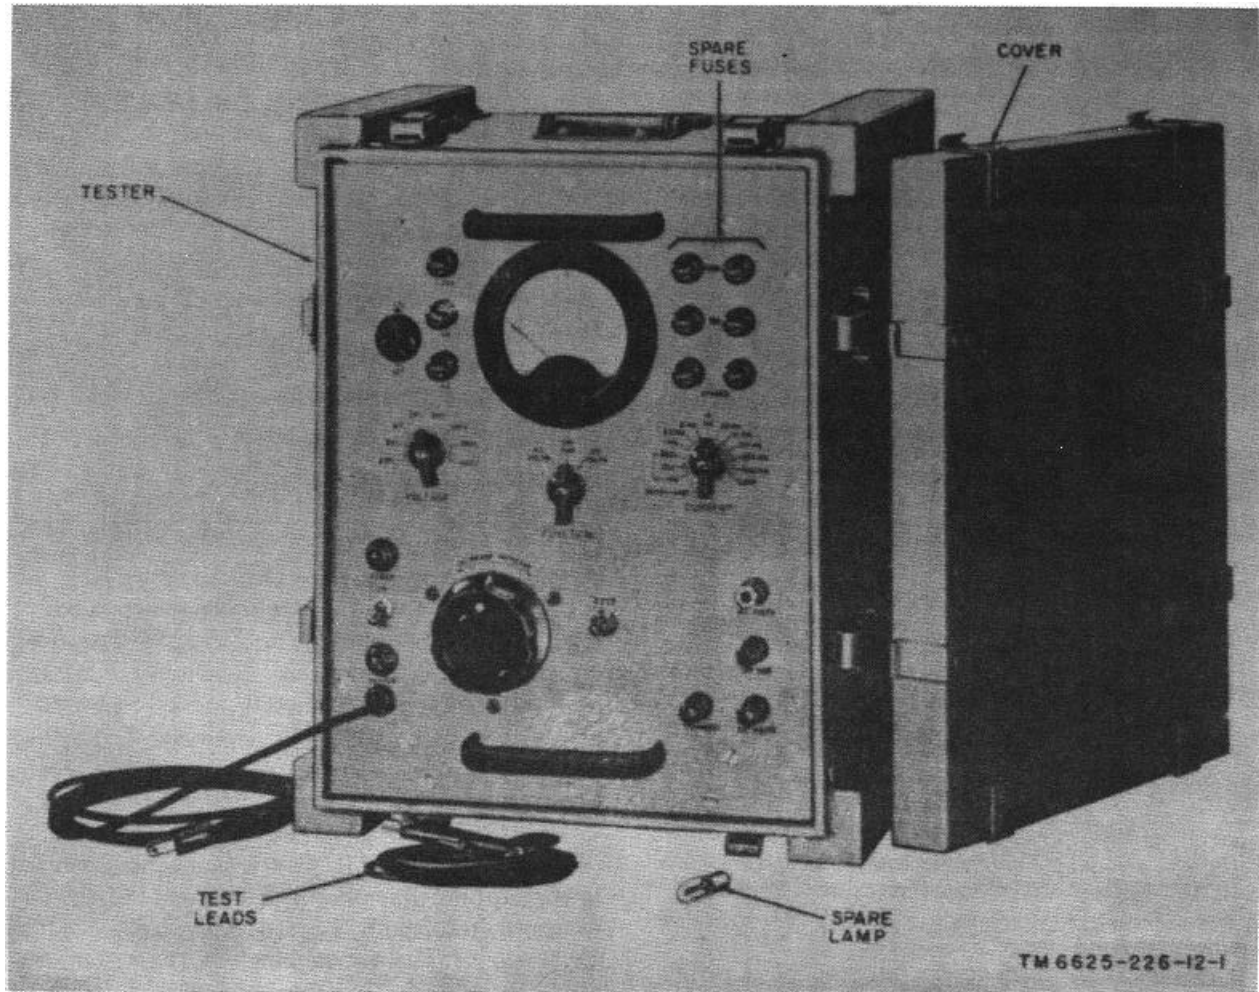

Figure 1. Electrical meter test TS-656/U.
5. Components of Electrical Meter Test Set TS656/U (fig. 1)
The test set (fig. 1) is a self-contained metered power supply. The major components of the test set are the tester and the test leads.